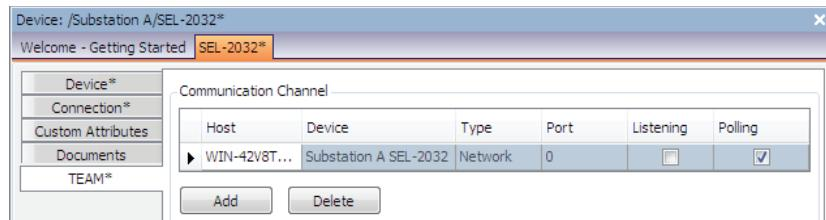

Figure 31 Communications Processor TEAM Selection
Step 3. Switch to the **TEAM** tab and select **Edit**. Select the **Add** button under the **Communication Channel** box in *Figure 31* to start the **Server Configuration Wizard**.